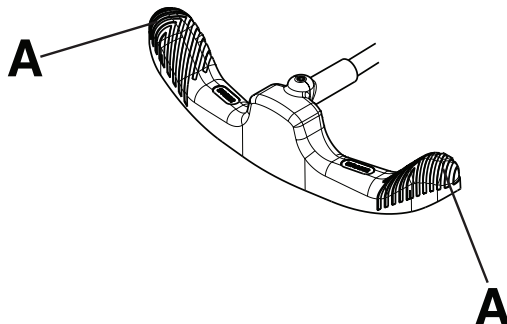

Figure 4 – Operating the brake/steer pedal
**Note** - Do not push down on the center of the brake/steer pedal. Always push down on the outer side (A) of the brake/steer pedal (Figure 4).